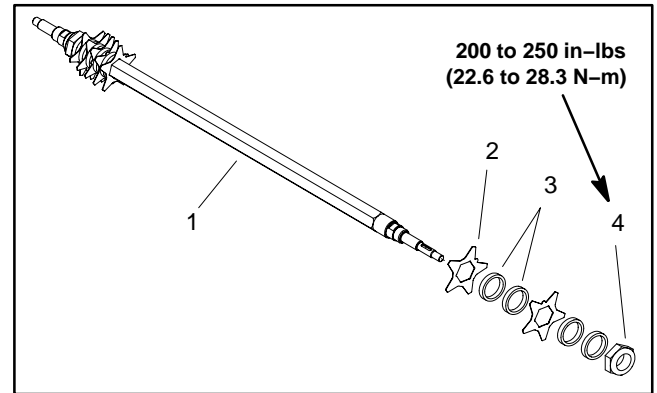

Figure 10
### Disassembly (Fig. 10)
2. Remove lock nut from either end of the shaft (Fig. 10).
### Assembly (Fig. 10)
1. Start by placing two spacers against a lock nut installed on one end of groomer shaft. Then, place first blade against spacers (Fig. 10).
2. For 1/2 inch (1.3 cm) spacing, make sure there are two spacers between blades (Fig. 10).